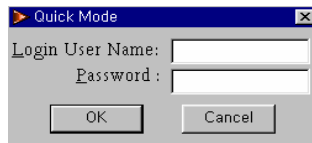

Fig 2.50
- If a user other than the System Administrator logs in, a prompt/dialogue box appears (Fig 2.50)